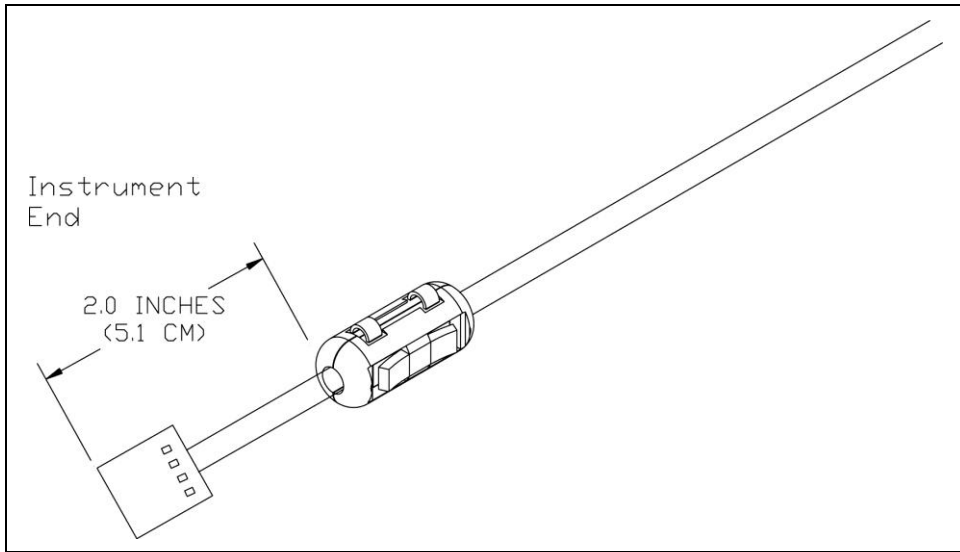

Figure 3: Ferrite Bead Location
7. For CE compliance, a ferrite bead must be installed on the wire running to the digital communications, either RS-485 or Lon Mark®. The ferrite bead should be 2 inches (5.1 cm) away from the Model 8650 end of the communications wire (Figure 3).